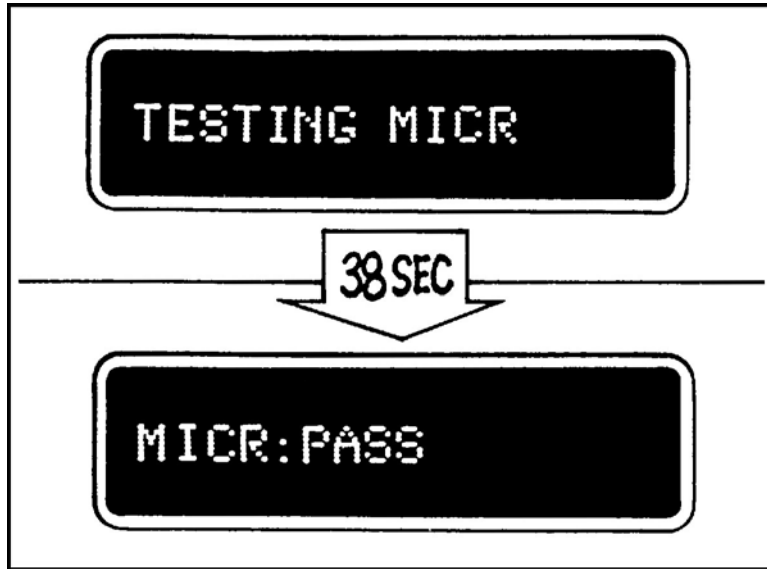

Figure 6. Display.
- b. The display should show TESTING MICR. The test takes about 38 seconds to complete. At the end of the test, the display shows, MICR: PASS (Figure 6).